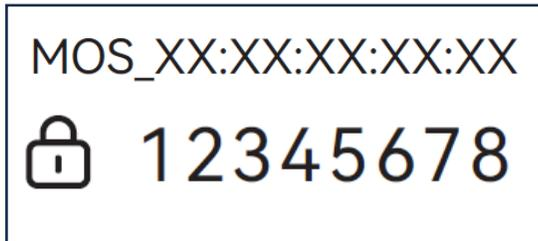

Fig. 3.5
- **Select Network:** Choose the network named "MOS_XXXXXXX". See Fig. 3.5.
- **Enter Password:** When prompted, enter the default password: **12345678**. See Fig. 3.5.